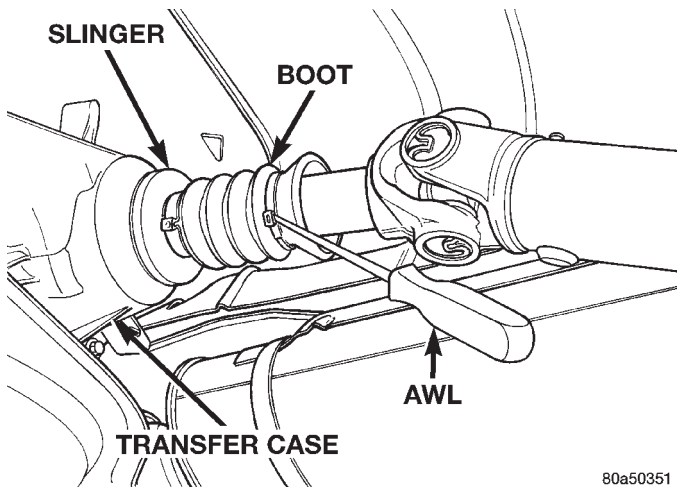

Fig. 5 Output Boot—Typical
(1) Remove output shaft boot. Spread band clamp that secures boot on slinger with a suitable awl. Then slide boot off shaft (Fig. 5).